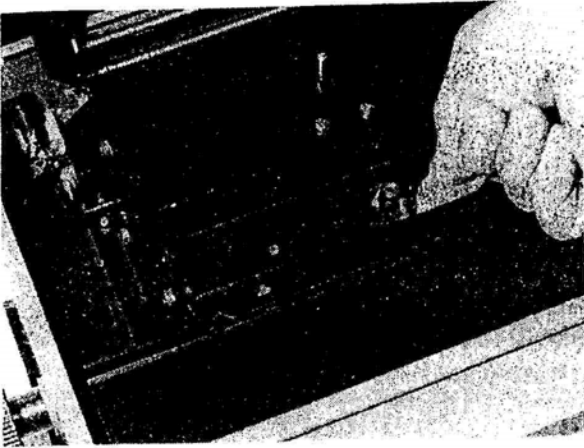

Fig. 1
**IMPORTANT!!** Before the VARIODRILL is taken into use, remove the transport safety hose, which is a piece of rubber hose jammed at the spindle top under the work table (see Fig. 1).